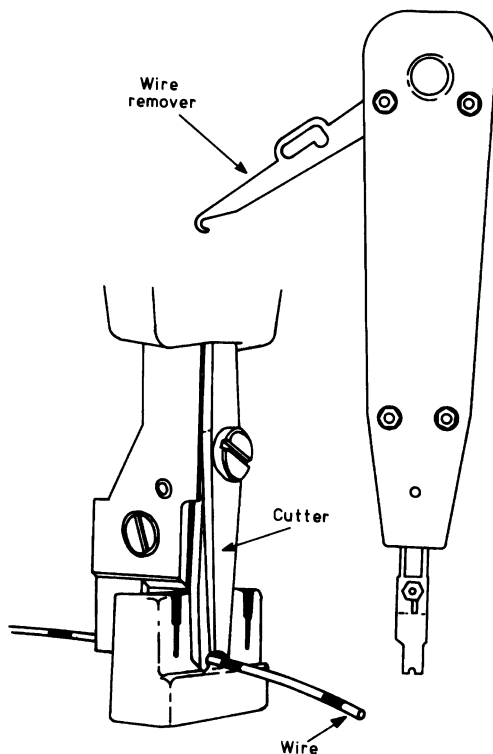

Figure 9.1 Professional IDC insertion tool.
Probably the single most important tool for installation work is the insertion tool shown in Fig. 9.1. It is used for making connections to the IDC terminals of sockets and connection boxes, and is frequently referred to as a 'Wire Inserter 2A' using the BT identification code number. The manufacturer of the tool is Krone (UK) Technique Ltd., and their part number is 6417/1/810/02. The tools are available from all of the suppliers listed in Appendix 3, at prices generally in the range of £12–£15. (Prices quoted in this chapter were correct in October 2000.)